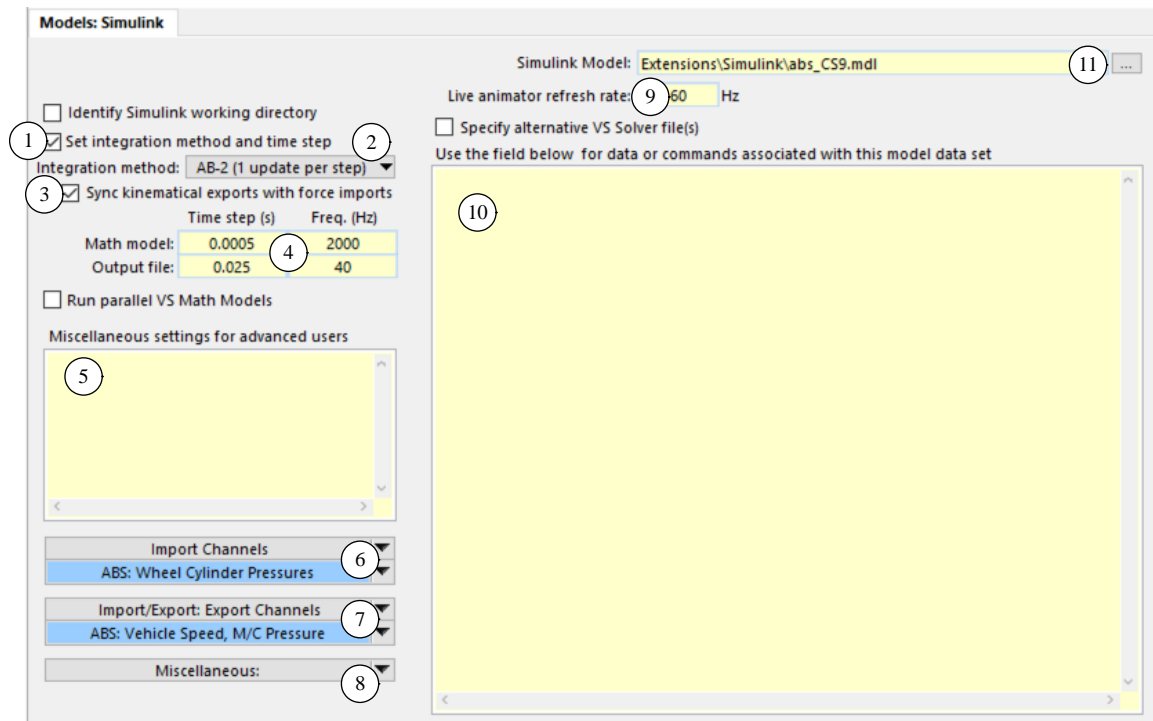
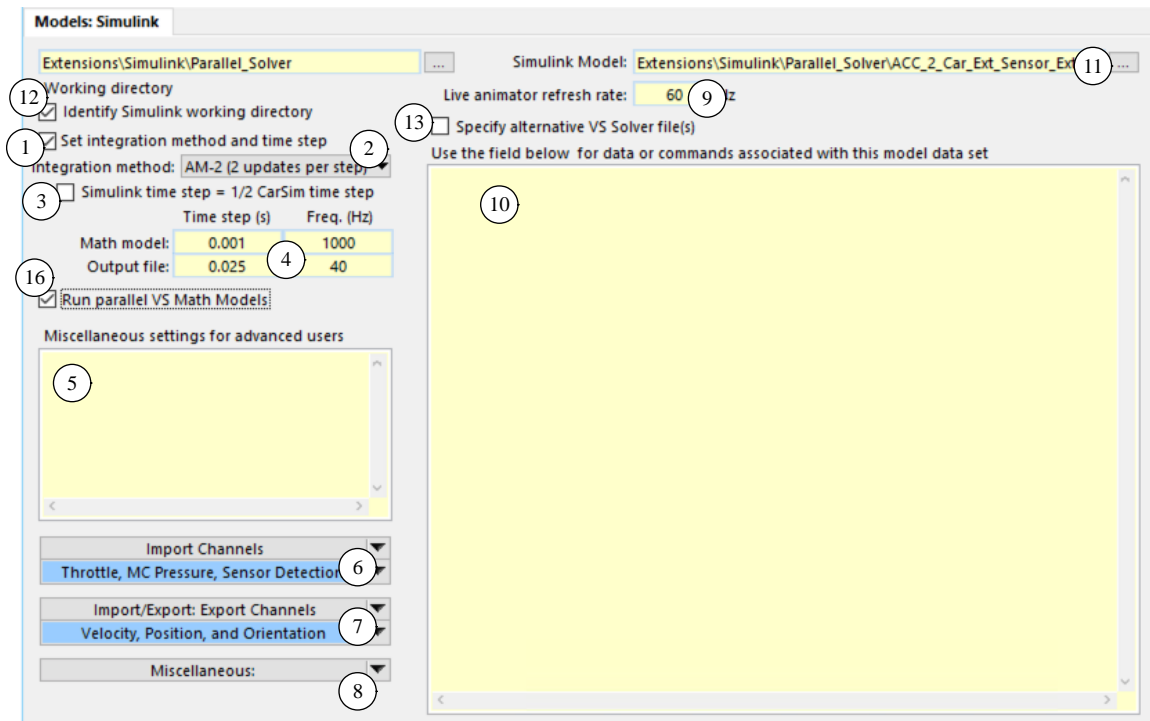
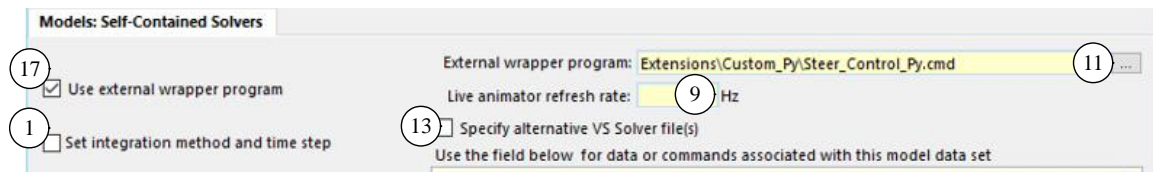
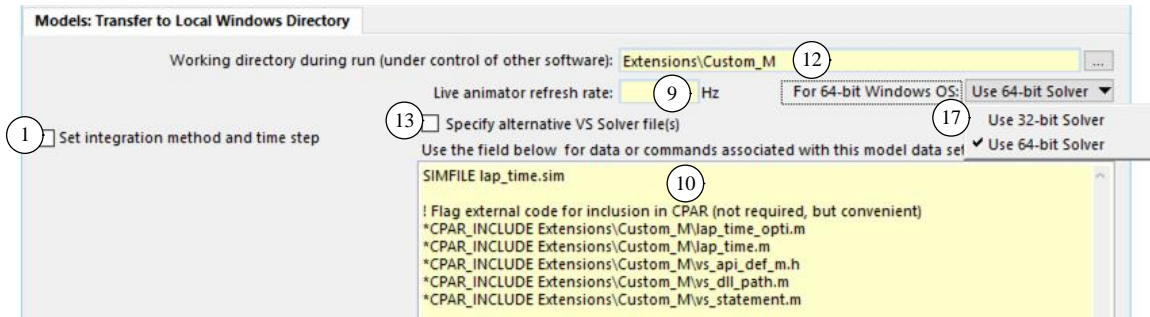

Figure 3. Models: Simulink screen with basic controls shown.
Figure 5. The Models: Simulink screen, including advanced controls.
Figure 11. Top of the Models: Self-Contained Solvers screen.
Figure 14. Top of the Models: Transfer to Local Windows Directory screen.
Figure 3 shows the **Models: Simulink** screen with a typical setup. Nearly all of the numbered items on the screen appear on every other **Models** screen and are described below in detail.
- ⑤ Miscellaneous field. This field has no specific purpose but can be used to globally specify parameters and options that should always be applied when a run is made using this dataset.
- ⑥ Link to a dataset. Traditionally this is used for an **I/O Channels: Import** dataset that specifies the variables that an external model (e.g., a Simulink model) is expecting to provide to the VS Solver. It can also be used for an **I/O Channels: Ports** dataset if working with an external model that uses multiple ports.
- ⑦ Link to a dataset. Traditionally this is used for an **I/O Channels: Output** dataset that specifies the variables that an external model (e.g., a Simulink model) is expecting to receive from the VS Solver. It can also be used for an **I/O Channels: Ports** dataset if working with an external model that uses multiple ports.
- ⑧ Miscellaneous link to a dataset that should always be associated with this model extension.
- ⑨ Refresh frequency for live animation. This value is used when the model extension involves real-time operations with live animation using VS Visualizer. This value is sent to VS Visualizer when it is started.
- ⑩ Field for inserting optional VS commands (or other data). This field is provided as a convenient location for adding equations for existing Import variables, adding new variables, extending the models in other ways, all without using external software. The VS commands are described in *VS Commands Manual*.
- ⑪ Pathname for an external model or program. This field (and adjacent file browser button) exists in most of the **Models** screens, with different interpretations. For the example shown in Figure 3, it identifies a Simulink model file. With other Model screen, it will identify a type of file associated with that screen.
Figure 5 shows the **Models: Simulink** screen with all of the visible controls numbered. The basic settings were described in the previous section (① - ⑪); this section describes the additional settings (⑫ - ⑯). Although the example screen is for Simulink, most of these controls are available in other screens as well.
The descriptions of the common settings for a **Models** screen in the previous sections (see Figure 3 on page 4 and Figure 5 on page 9) were based on the Simulink screen, so only a few notes are provided here.
- ⑪ The external model or program is a Simulink or LabVIEW model file. You will specify the pathname to the MDL or SLX file (Simulink) or VI file (LabVIEW) that will use the VS Solver. The pathname can be typed, pasted in, or obtained using the adjacent browse button.
- ⑫ The Simulink working directory field is visible and active only if the adjacent checkbox is checked (see Figure 5). When the box is not checked, then the working directory is assumed to be the active VS database folder (e.g., CarSim\_Data) and all pathnames on this screen are shown relative to that.
Nearly all of the discussion in earlier sections about basic and advanced controls applies here (see Figure 3 on page 4 and Figure 5 on page 9). There are just three differences for this screen, which are in the top area (Figure 11).
Nearly all of the discussion in earlier sections about basic and advanced controls applies here (see Figure 3 on page 4 and Figure 5 on page 9). There are just three differences for this screen, which are in the top area (Figure 14).
Nearly all of the discussion in earlier sections about basic and advanced controls applies here (see Figure 3 on page 4 and Figure 5 on page 9, which document the controls numbered (1) - (16)).